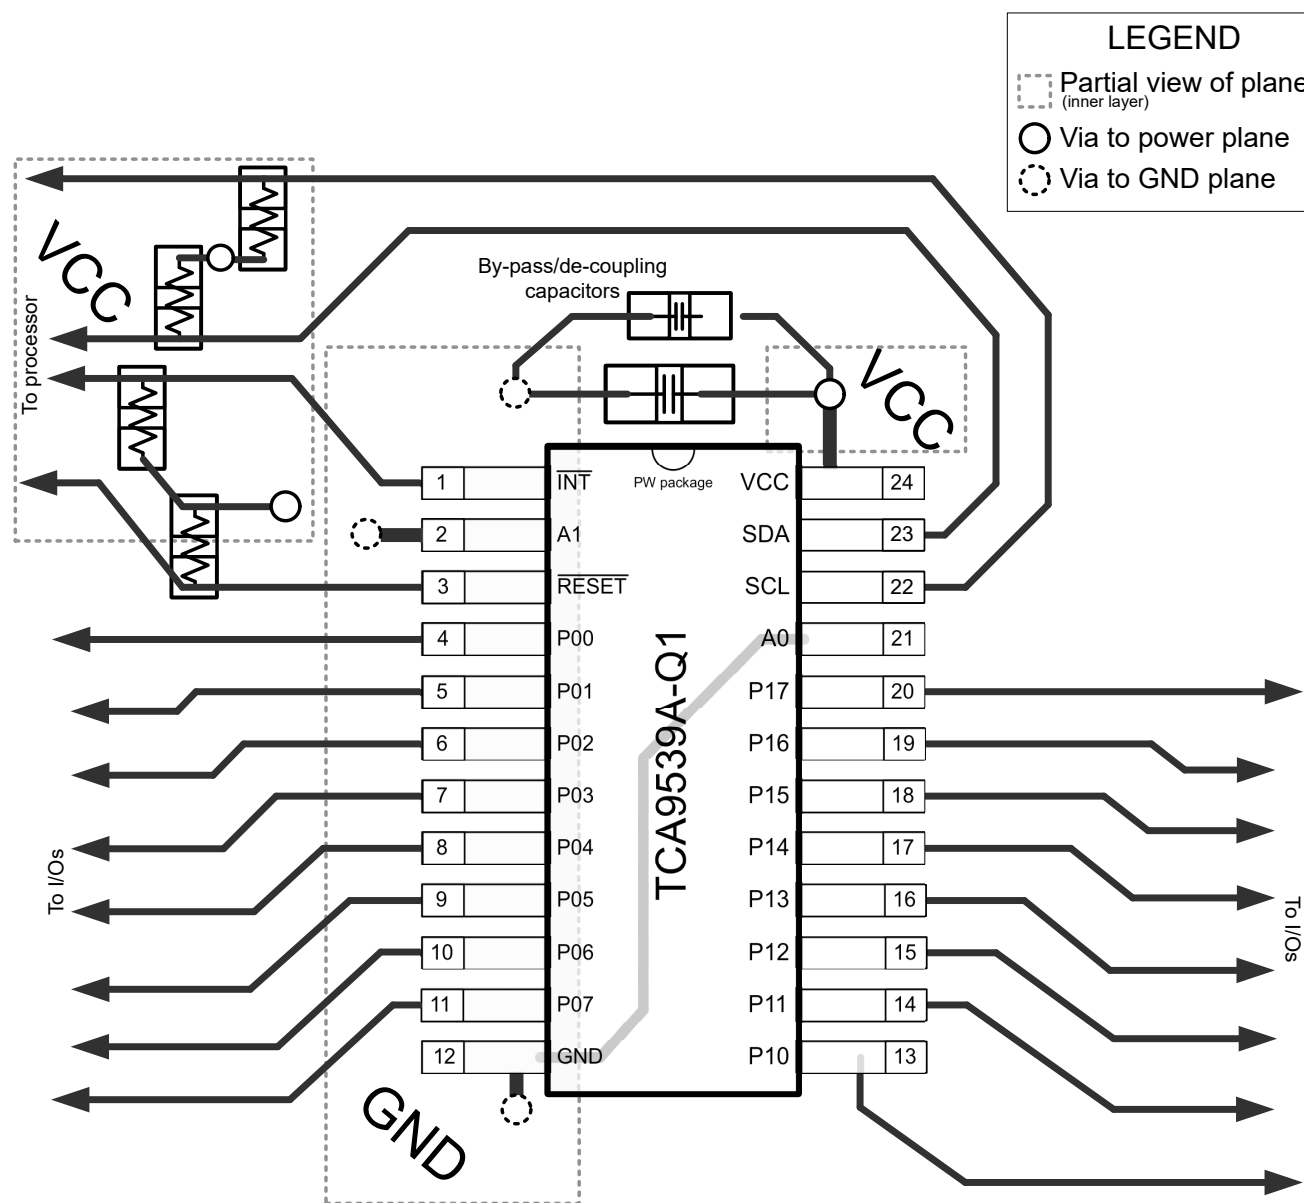

Figure 8-6. TCA9539A-Q1 Layout
In all PCB layouts, the best practice is to avoid right angles in signal traces, to fan out signal traces away from each other upon leaving the vicinity of an integrated circuit (IC), and to use thicker trace widths to carry higher amounts of current that commonly pass through power and ground traces. By-pass and de-coupling capacitors are commonly used to control the voltage on the V_{CC} pin, using a larger capacitor to provide additional power in the event of a short power supply glitch and a smaller capacitor to filter out high-frequency ripple. These capacitors must be placed as close to the TCA9539A-Q1 as possible. These best practices are shown in Figure 8-6.
For the layout example provided in Figure 8-6, the user can fabricate a PCB with only 2 layers by using the top layer for signal routing and the bottom layer as a split plane for power (V_{CC}) and ground (GND). However, a 4 layer board is preferable for boards with higher density signal routing. On a 4 layer PCB, the user can route signals on the top and bottom layer. Dedicate one internal layer to a ground plane, and dedicate the other internal layer to a power plane. In a board layout using planes or split planes for power and ground, vias are placed directly next to the surface mount component pad which must attach to V_{CC} or GND and the via is connected electrically to the internal layer or the other side of the board. Vias are also used when a signal trace needs to be routed to the opposite side of the board, but this technique is not demonstrated in Figure 8-6.